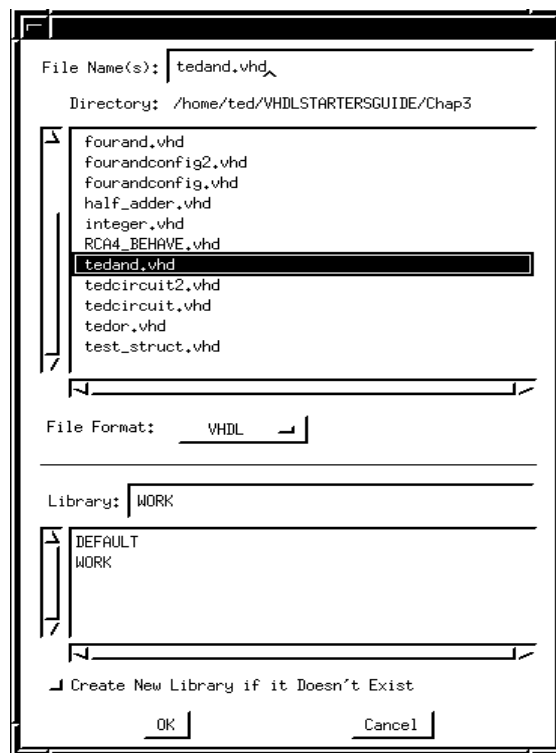

Figure 10: Analyze File window.
(2) From this window, Select File -> Analyze. A new Analyze File window will appear as shown in figure 10. From this window, select tedand.vhd from the file list and make surwe that the File Foramt is set to VHDL. Select OK.
(3) Repeat the steps given in (2) to analyze the files tedor.vhd, and tedcircuit.vhd. Note the order of analysis.